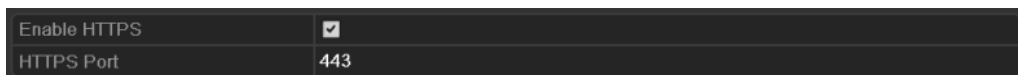

Figure 9. 21 HTTPS Settings Menu
2. Select the **More Settings** tab to enter the More Settings interface, as shown in Figure 9. 16.